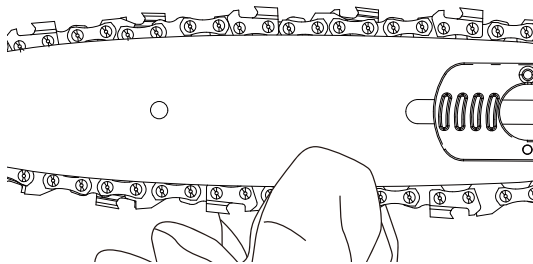

Fig. 10
2. Pull the chain away from the guide bar. (Fig. 10)